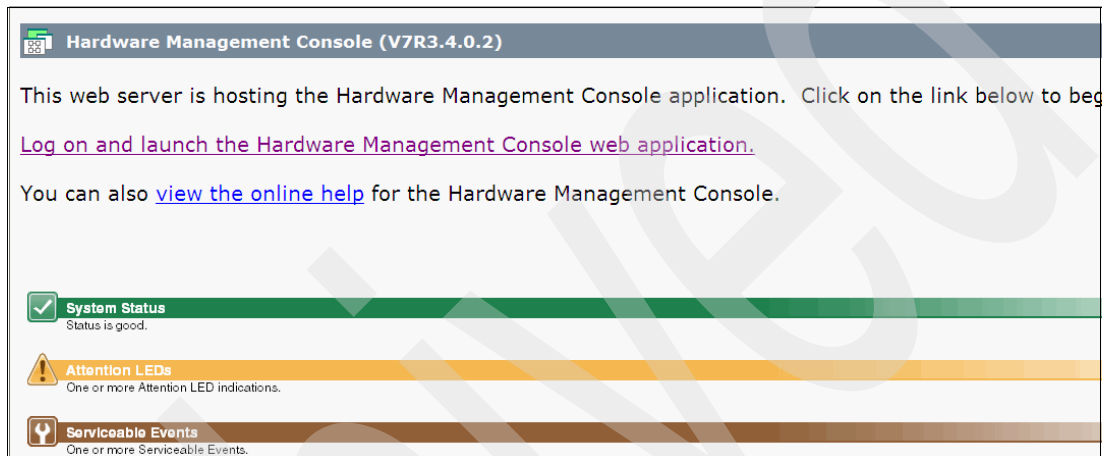

Figure 12-8 HMC Web User Interface
1. Log into the DS8700 Web User Interface (WUI) by directing your browser to `https://<DS8700 HMC IP address>`. The HMC WUI window appears (see Figure 12-8).